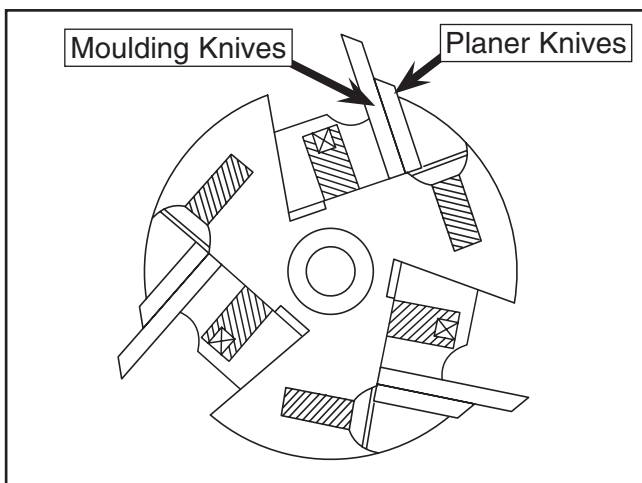

Figure 21. Cutterhead and knives
7. For smaller knife sets only remove the center spacers. For larger knife sets remove the gibs, spacers and planer knives. Note—*The planer knives remain in place when using knives under 2".* See **Figure 21**.
9. **Make sure the knives are set to the bottom of the cutterhead slot and face the direction shown in Figure 21.**